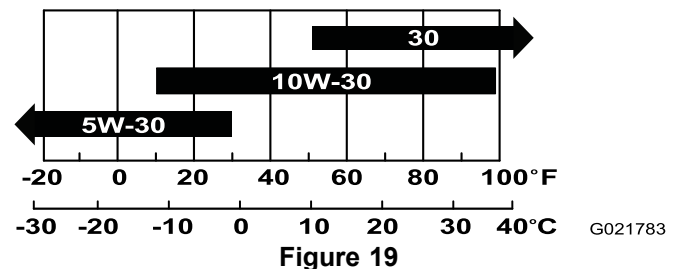

Figure 19
**Note:** Use SAE 10W-30 for general use. You can use the other viscosities shown in the chart when the average temperature in your area is within the indicated range (Figure 19).